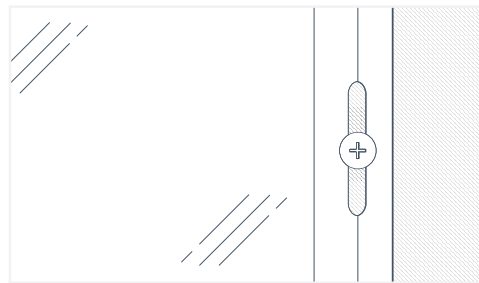

Fig. 5
- Always fasten in the center of the screw flange slots; fastening at the end of the slots can cause the panels to buckle or distort (Fig. 5)